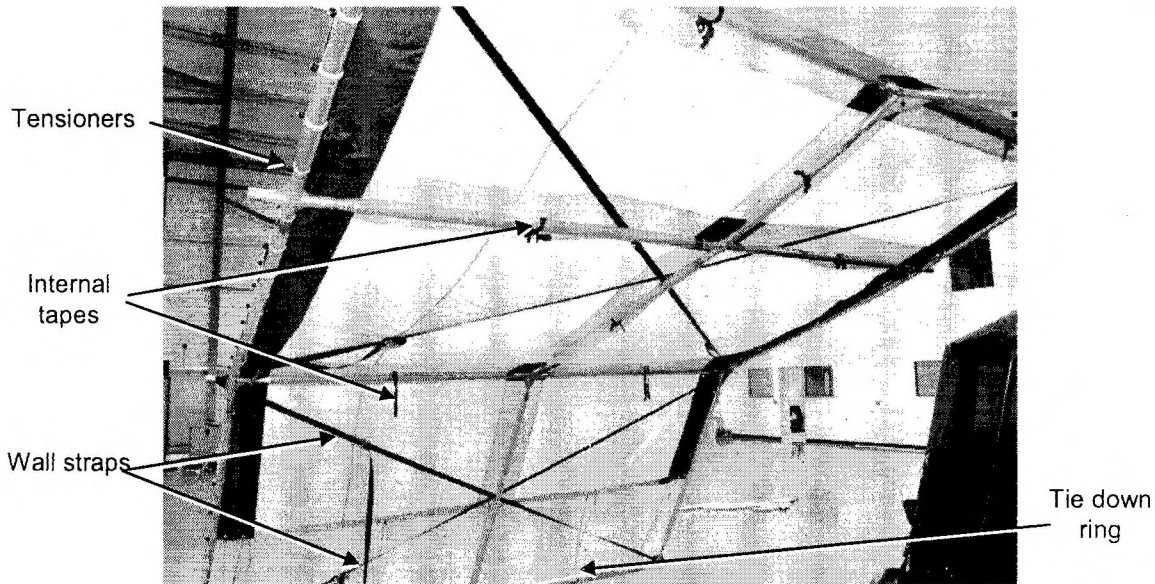

Fig 3 Attaching the cloth to the roof frame assembly
7 To attach the cloth to the roof frame, refer to Fig 3 and proceed as follows:
- 8.2 Slide a tie down ring over each of the base members as shown in Fig 3.
- 8.3 Attach and tighten the adjustable wall straps diagonally between opposing corners as shown in Fig 3.